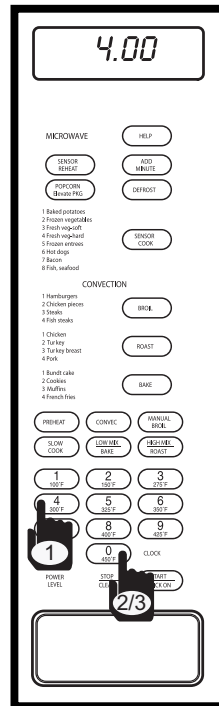

Figure 3-49.
5. Enter desired cooking program. This example will use Manual Cooking. Enter time duration. For example: 4 minutes; press the number 4 key, and number 0 key twice (See Figure 3-49), and the display will flash "4.00 - PRESS - START - OR - PRESS - POWER - LEVEL".